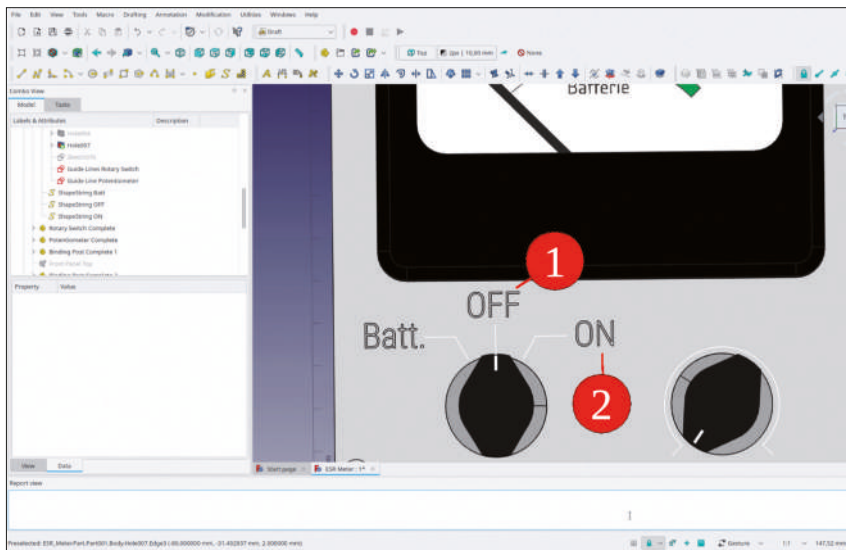

Figure 8-30
6. In similar fashion, create the labels 'OFF' and 'ON', and then move them to the locations shown in Figure 8.30.